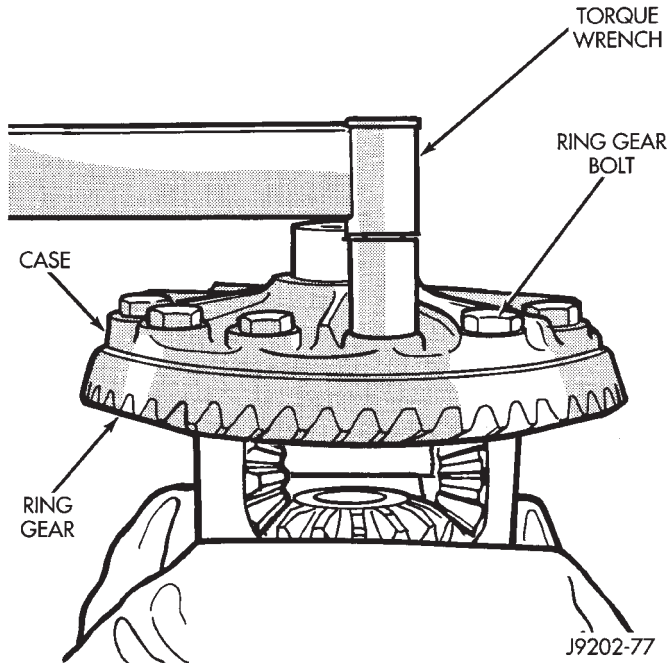

Fig. 33 Ring Gear Bolt Installation
(1) Invert the differential case and start two ring gear bolts. This will provide case-to-ring gear bolt hole alignment.
(2) Invert the differential case in the vise.
(3) Install new ring gear bolts and alternately tighten to 95–122 N·m (70–90 ft. lbs.) torque (Fig. 33).
(4) Install differential in axle housing and verify gear mesh and contact pattern.